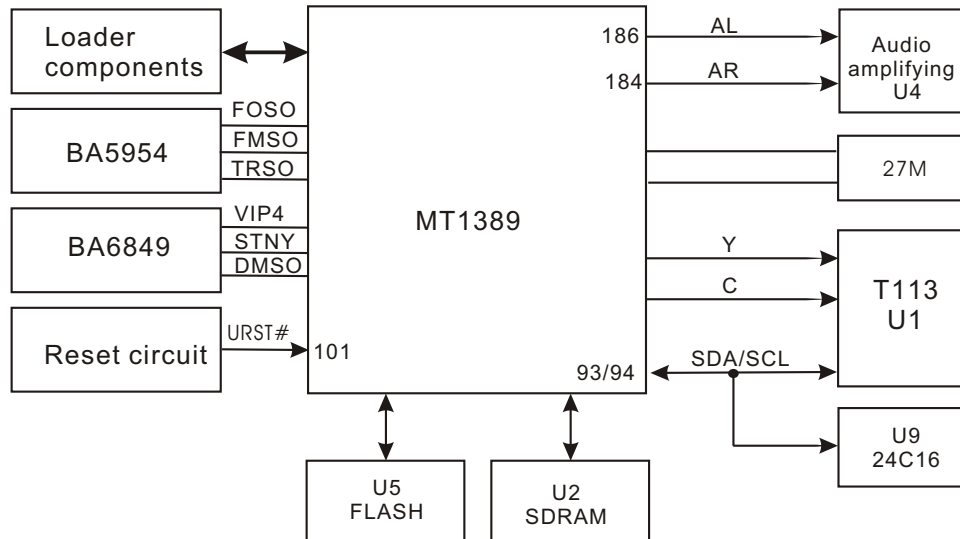

Figure 3.2.12.1 Decode circuit block diagram
1. Decode circuit block diagram is shown in the figure 3.2.12.1: